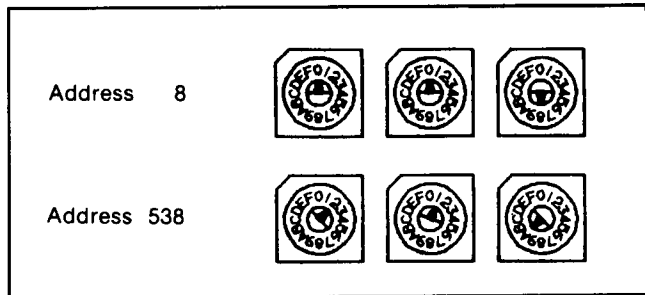

Fig. 8 Address Switch Examples
- 5) Set the address selector switches. Each PONI installed in any one network must have a unique address. The three hexadecimal selector switches offer 4094 different addresses (16x16x16), ranging from 001 to FFE. Records of addresses should be maintained in terms of the hexadecimal number (recommended) or decimal equivalent along with the connected product and the function of the PONI. In a hexadecimal system, A=10, B=11, C=12, D=13, E=14 and F=15. Examples of switch settings are shown in Figure 8.
- 4) Add the results from #1, #2, and #3 together. The result for the second example in Figure 8 is (2 x 256) + (1 x 16) + 10 = 538.